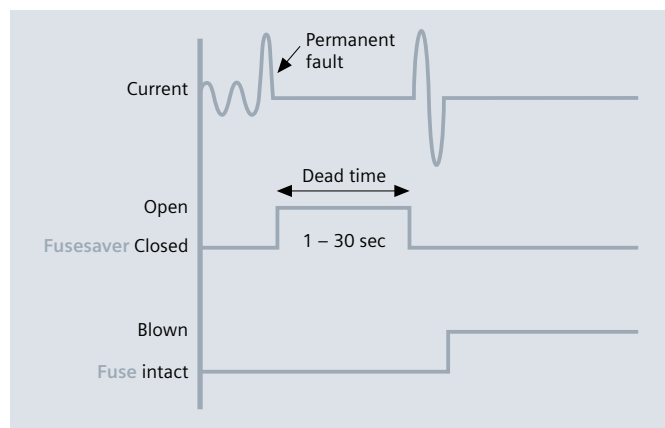

Fig. 4.3-9: Performance with permanent faults
- When the Fusesaver closes, the fault is still present, resulting in an immediate fault current. The Fusesaver will not operate again and allow the fault current to blow the fuse. Loss of power is unavoidable for customers on this lateral line, while all other customers receive an uninterrupted power supply. The Siemens Fusesaver restrict blown fuses on lateral lines to unavoidable cases of permanent faults (fig. 4.3-9).